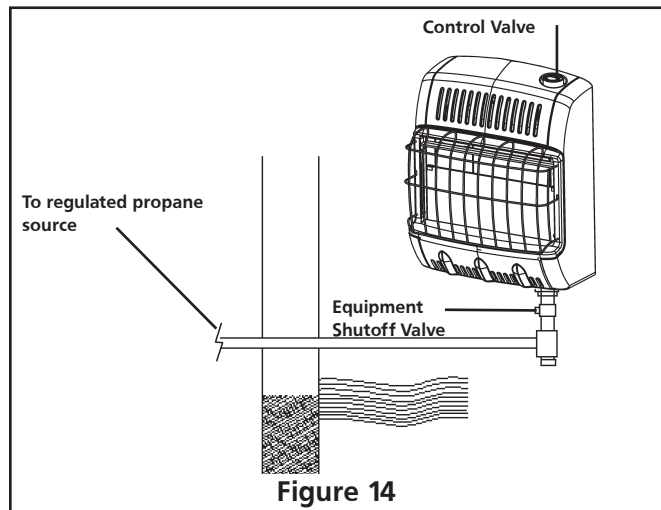

Figure 14
3. Check all joints from the propane/LP supply valve to equipment shutoff valve (see figure 14). Apply mixture of liquid soap and water to gas joints. Bubbles forming show a leak.
5. Check all joints from equipment shutoff valve to control valve (see figure 14). Apply mixture of liquid soap and water to gas joints. Bubbles forming show a leak.